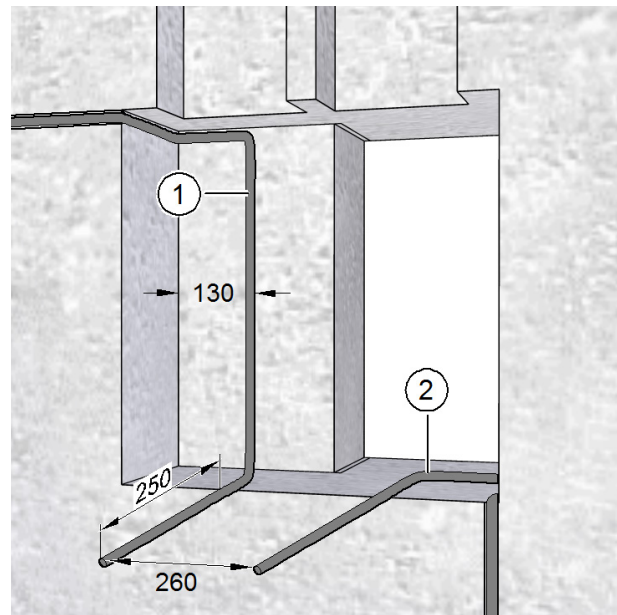

Fig. 11: Running the connecting cables, dimensions in millimetres
- ▶ Run the mains cable (item 1 in Fig. 11) and the control cable, if required (item 2 in Fig. 11). The cables should extend roughly 250 mm beyond the wall.